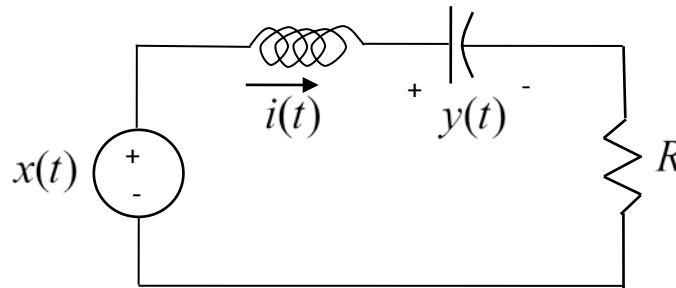

Figure 6. Second order circuit for PART 3
- 1) Construct the second order circuit shown in Figure 6. For this circuit, use your variable resistor for R, use a 0.01 μ f capacitor, and a 33 mH inductor.